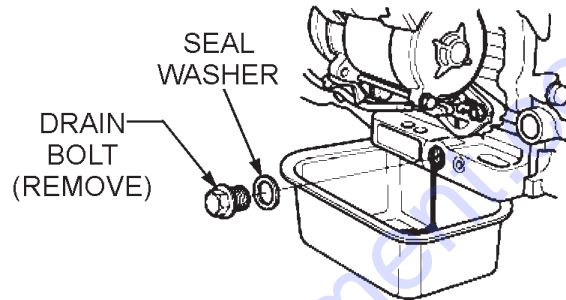

**Figure 27. Cleaning Foam Element**
- Clean the foam air filter (Figure 27) element in warm, soapy water, rinse and allow to dry thoroughly, or clean with a nonflammable solvent and allow to dry. **DO NOT** pour any type of oil into the foam element.